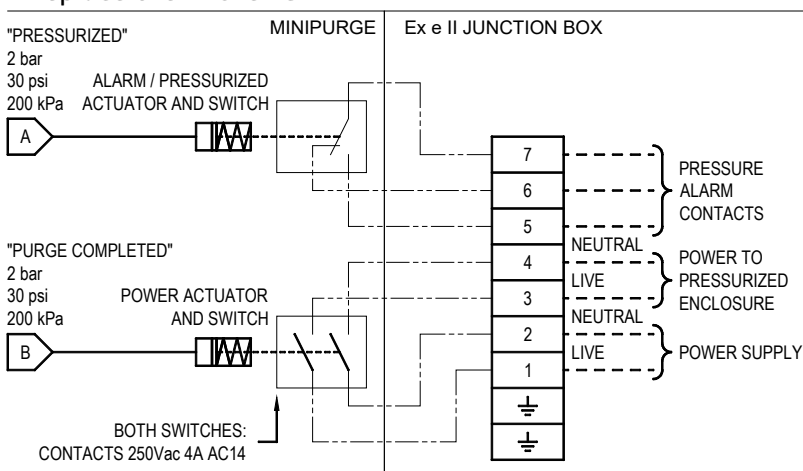

Figure 5. Ex de Power and Alarm (PA) Option
2. Remove the MIU/e lid and connect the alarm and power cables to the corresponding terminals inside the MIU/e terminal box as per the circuit diagram below (figure 5).